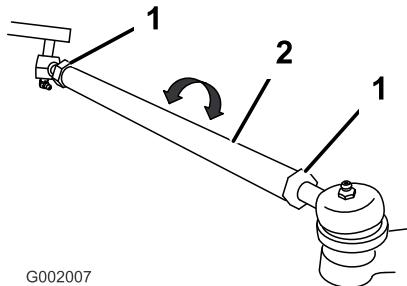

Figure 59
- If the measurement does not fall within the specified range, loosen the jam nuts at both ends of the tie rods (Figure 59).